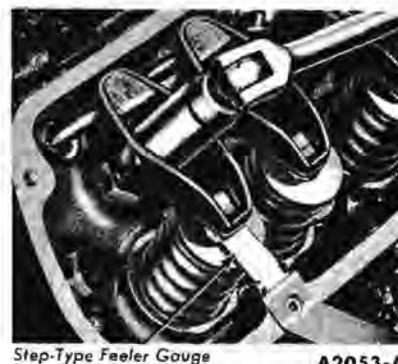

FIG. 18—Final Valve Lash Adjustment—289 High Performance V-8
2. With the engine idling, set the valve lash (Fig. 18) using a step-type feeler gauge only (GO and NO GO). The final (hot) intake and exhaust valve lash settings are listed in the Specification Section.